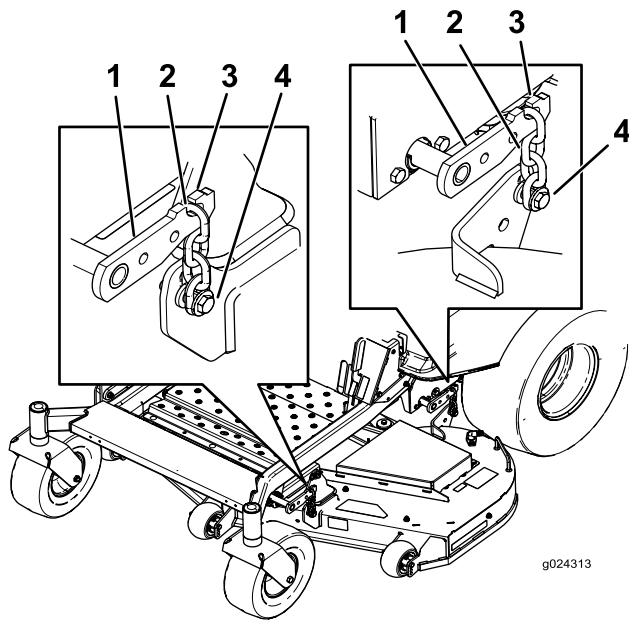

Figure 62
5. Loosen the adjustment bolts on all 4 corners so that the deck is sitting securely on all 4 blocks (Figure 62).
6. Ensure that there is tension on all 4 chains (Figure 62).
7. Tighten the 4 adjustment bolts (Figure 62).